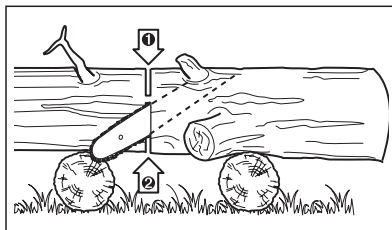

Fig. 12c
3. When the log is supported on both ends (Fig. 12c), cut 1/3 the diameter from the top (overbuck). Then make the finished cut by underbucking the lower 2/3 to meet the first cut.